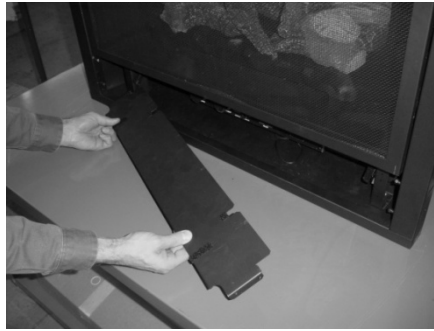

Figure 1
- 1 Remove the concealment cover from the front of the fireplace (see Figure 1).
- 21 Clip any excess wiring into the wire clips on the back of the control panel (see Figure 33). Use the included wire ties, if necessary, to keep all wiring from contacting any hot or moving components. Re-attach the control panel (see Figure 34) and shroud (see Figure 1).